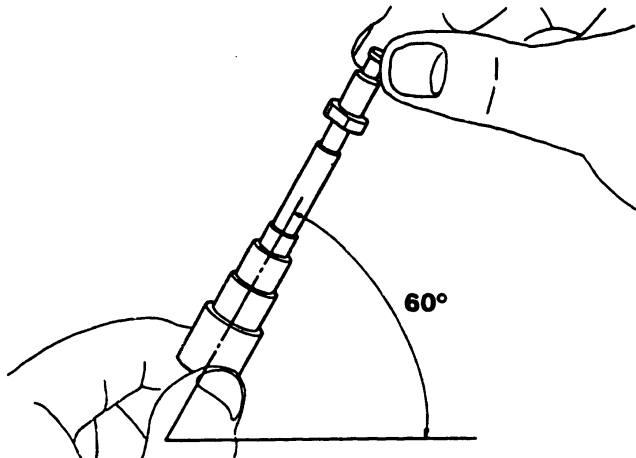

Fig. 63 Plunger slide test
2. After cleaning the plunger assembly with light oil, make sure that the plunger slides smoothly into the plunger barrel under its own weight, when the plunger assembly is inclined at 60° as shown in Fig. 63. Change the plunger position by rotating it, and check the plunger movement several times in the above manner. If a plunger slides into the plunger barrel too quickly or does not slide smoothly, replace the plunger assembly.